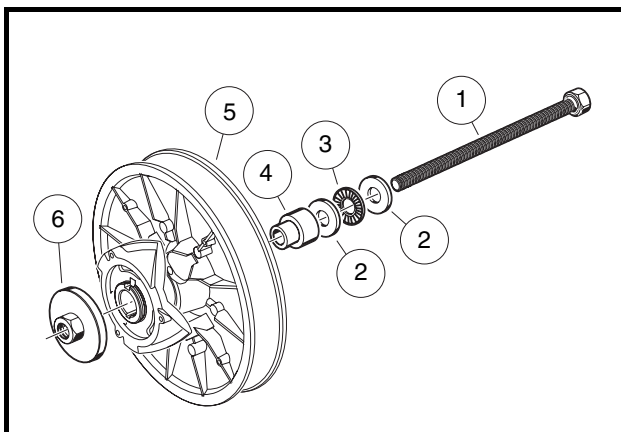

Figure 17-20 Cam Installation Tool
NOTE: This process is for field assembly requirements where hydraulic and pneumatic press equipment is not available. Use the Cam Installation Tool (CCI P/N 101808401) for this process (**Figure 17-20, Page 17-16**).
- 5.2.1. With the clutch loosely assembled, set the edge of the clutch body (5) on a clean, flat surface (**Figure 17-20, Page 17-16**).
- 5.2.3. Slide the bolt (1) through the clutch body (5) until the threaded bolt, washers, bearing, and hub guide are against the fixed face hub (**Figure 17-20, Page 17-16**).